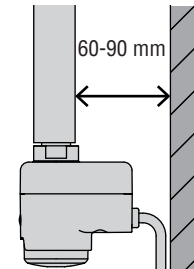

Fig. 2
- The Towel rail has to be mounted parallel to the wall using the brackets recommended by the towel rail manufacturer. The distance between ATLANTIS and the wall must be between 60 and 90 mm (Fig. 2). In order to avoid a hazard for younger children, the electrical towel rail should be installed so that its bottom part is at least 600mm above the floor according to EN 60335-2-43/A1.